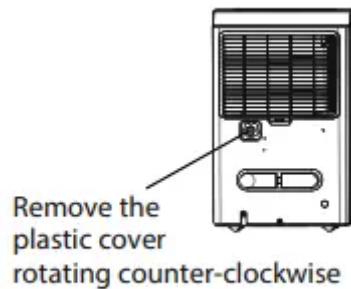

Fig. 9
- Remove the plastic cover from the back drain outlet of the unit and set aside, then insert the drain hose through the drain outlet of the unit and lead the drain hose to the floor drain or a suitable drain facility. (See Fig. 9 and Fig. 10)